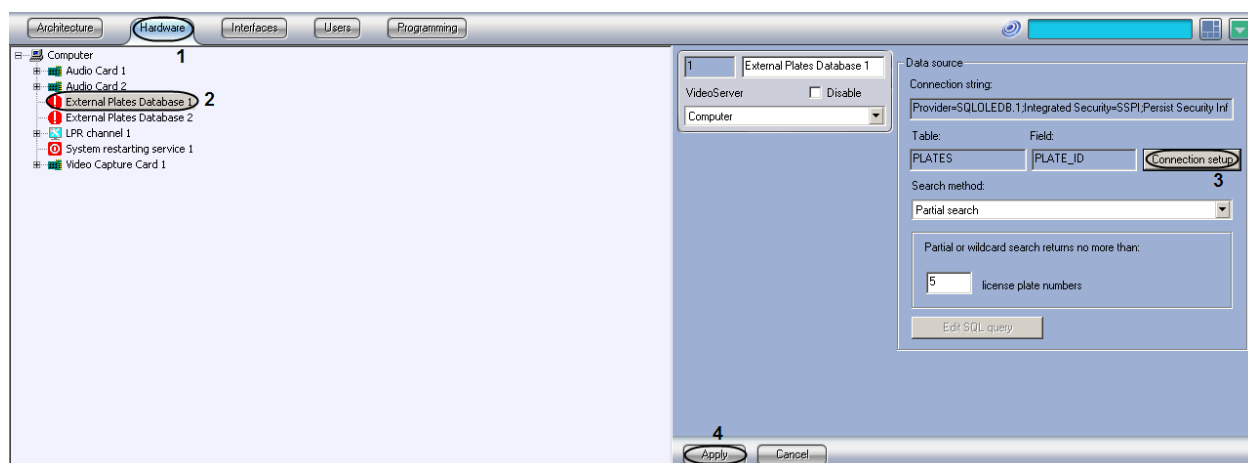

Fig. 7.6—8 Assigning names to table's columns, containing vehicle plates
2. Select the «External Plates Database» in the objects tree (Fig. 7.6—8, 2).
3. Press the «Connection settings» button (Fig. 7.6—8, 3).